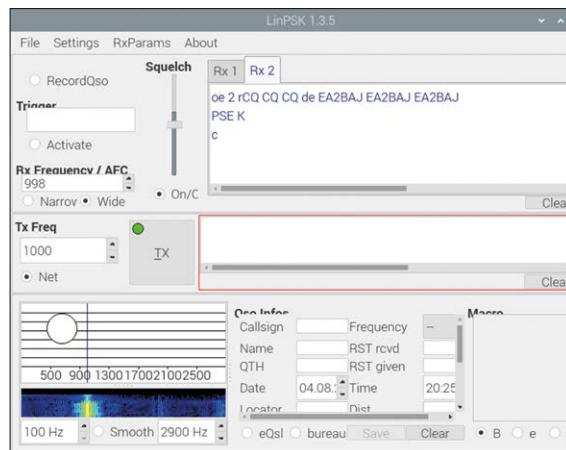

Figure 25.40: Example LinPsk display.
- Click the large **Rx** button and start to play the BPSK file on your PC. You should see the received data displayed on the screen as shown in Figure 25.40.